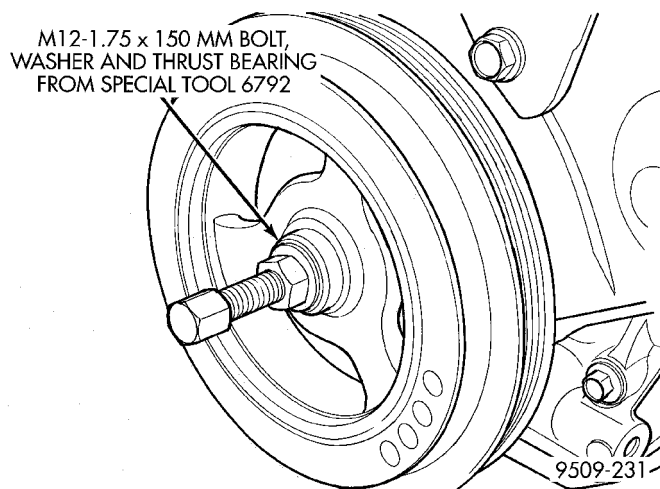

Fig. 61 Crankshaft Damper—Installation
(4) Install timing belt and covers. Refer to Timing Belt System in this section for installation.
(5) Install crankshaft damper (Fig. 61). Use thrust bearing/washer and 12M-1.75 x 150 mm bolt from Special Tool 6792. Install crankshaft damper bolt and tighten to 142 N·m (105 ft. lbs.)